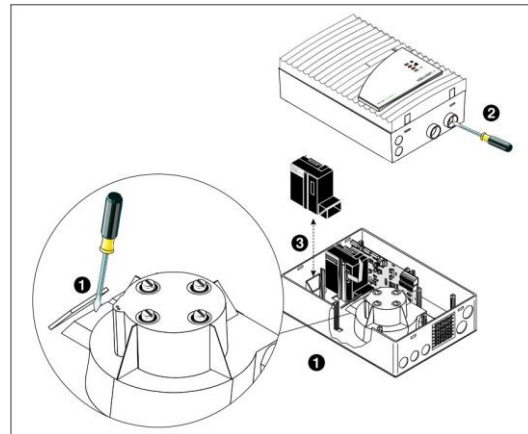

Figure 2: Detector Head Installation
- d. Note the correct detector head orientation (figure 2) and install the detector by spreading the support clamps and placing the detector head between them. Both clamps should fit tightly against the module and snap in audibly. Press the support clamps together.
The middle inlet in Fig 2 is for the first pipe (1st detector) and the outer for the 2nd detector if fitted.